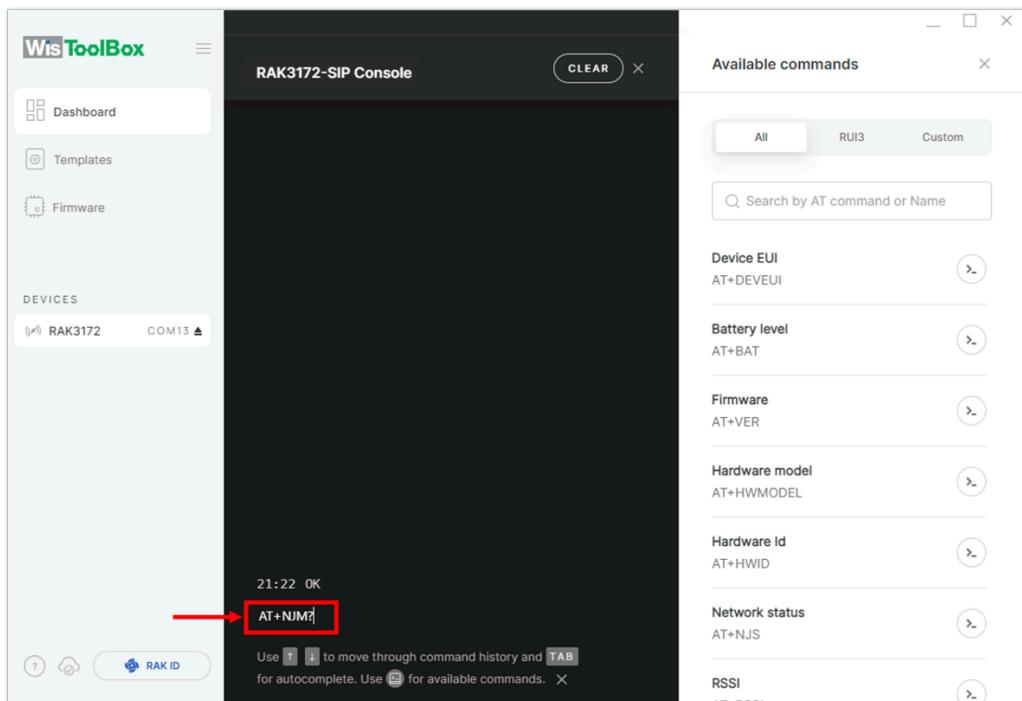

Figure 83: Setting up your Console
8. Then configure the LoRaWAN join mode to **OTAA**. You can check what parameter you will input by typing **AT+NM?** and then **Enter** into the console terminal. For **OTAA**, you should input **AT+NM=1** and then press **Enter** as shown in **Figure 83**.